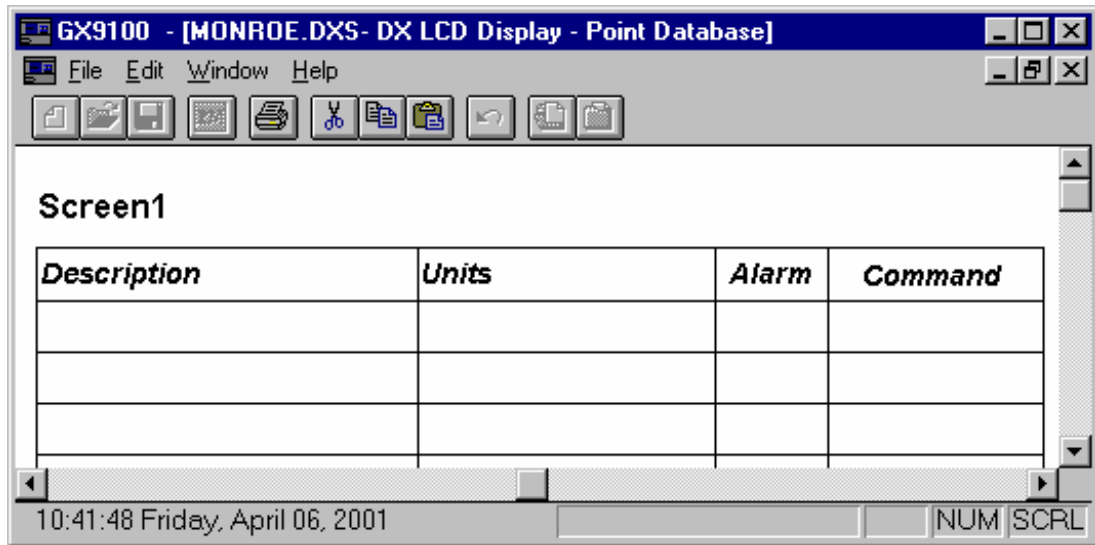

Figure 13-1: DX LCD Display Point Database Window
1. On the DX LCD Display menu, click Point Database. The DX LCD Display Point Database appears (Figure 13-1).
1. On the DX LCD Display menu, click Point database. A window named DX LCD Display Point Database appears (Figure 13-1).